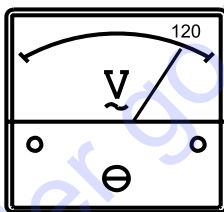

Figure 34. Voltmeter
- The generator's AC-voltmeter (Figure 34) will display the generator's output in **VOLTS**.